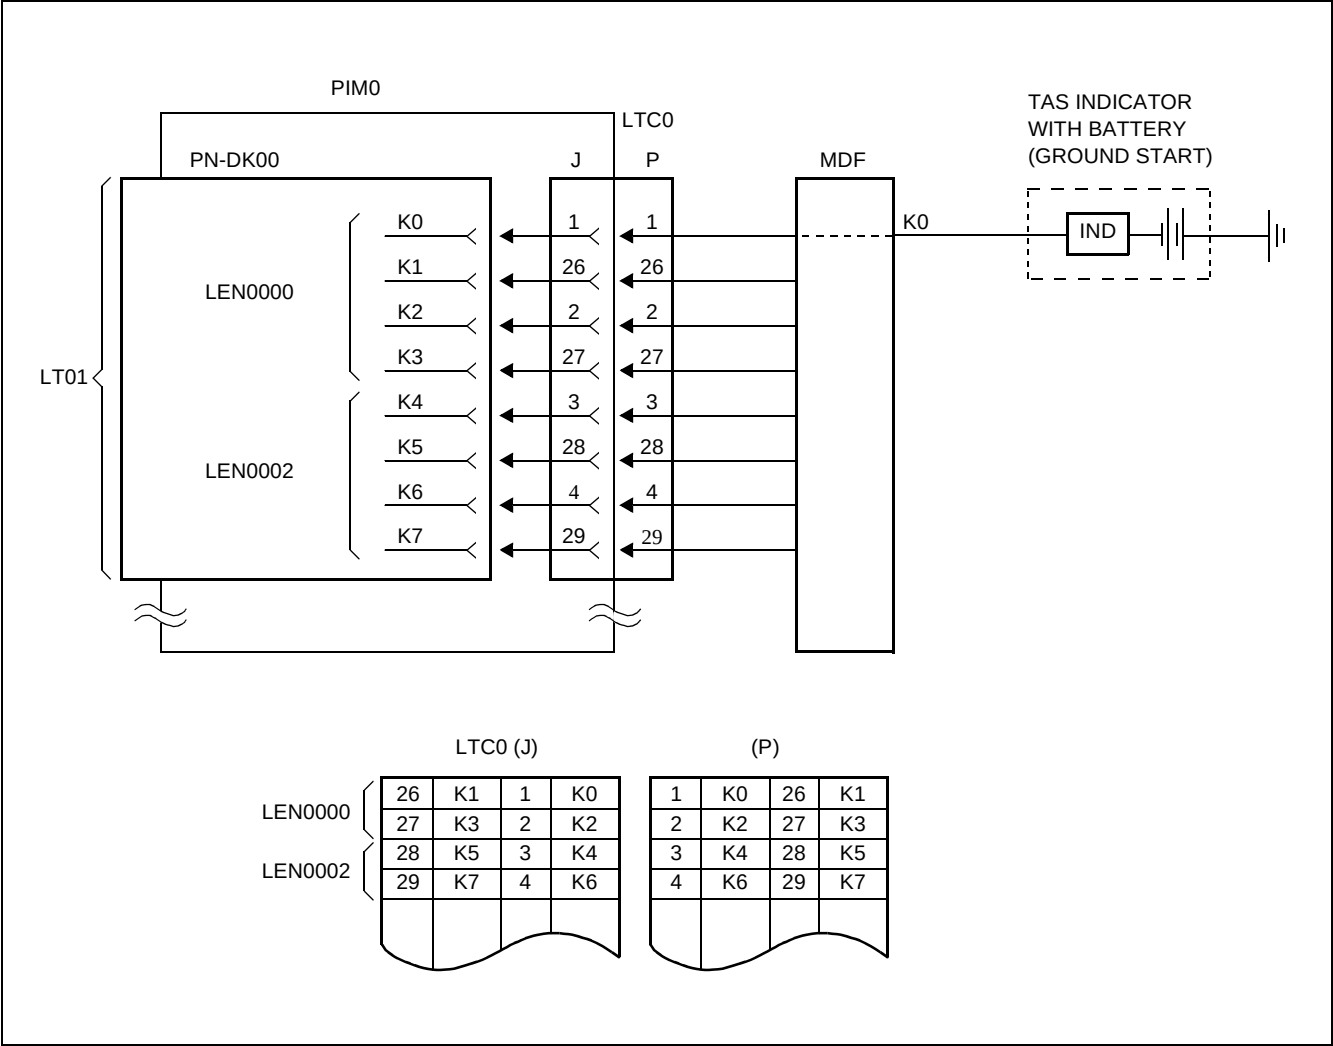

Figure 007-22 MDF Cross Connection for TAS Indicator with Battery (Ground Start)
- When using a TAS Indicator with a Battery (Ground Start) (see Figure 007-22)